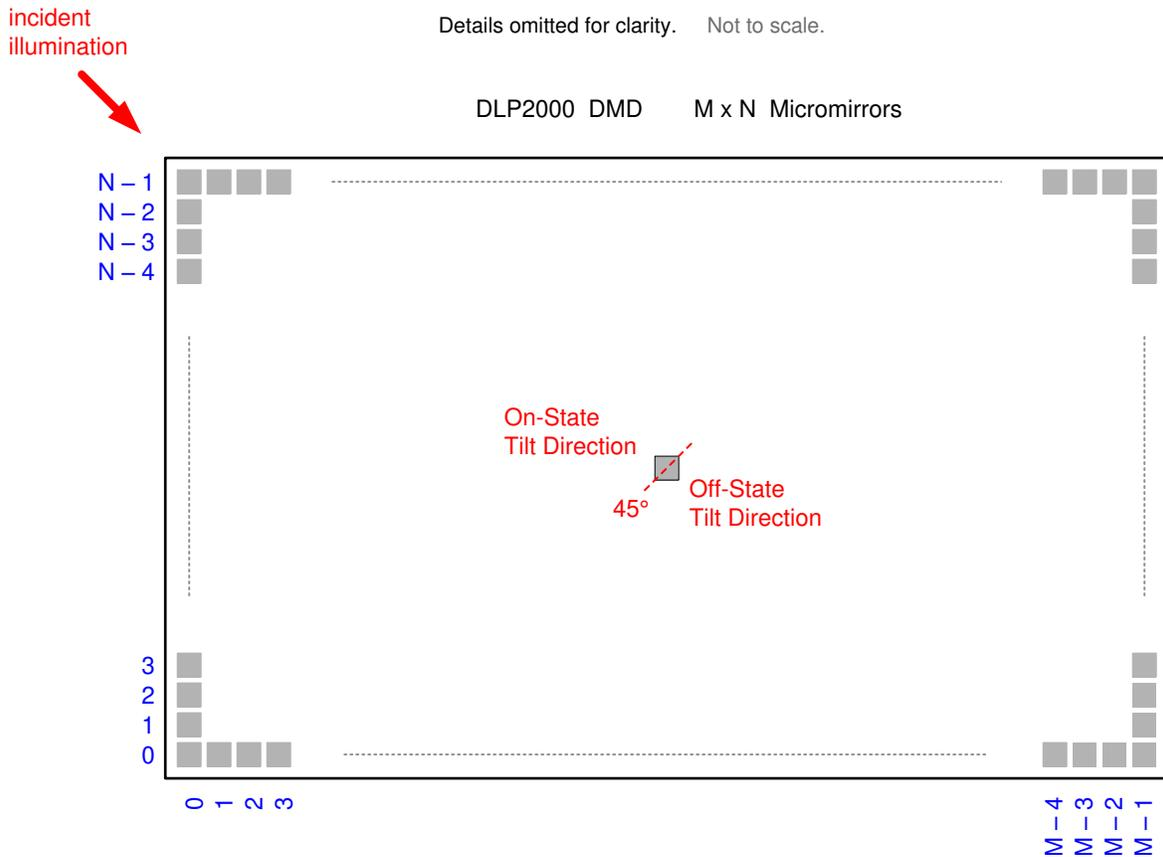

图 6-9. Landed Pixel Orientation and Tilt
- (1) Limits on variability of micromirror tilt half angle are critical in the design of the accompanying optical system. Variations in tilt angle within a device may result in apparent non-uniformities, such as line pairing and image mottling, across the projected image. Variations in the average tilt angle between devices may result in colorimetry and system contrast variations. The specified limits represent the tolerances of the tilt angles within a device.
- (2) See Fig 6-9.
- (3) Conditions of acceptance: All DMD image quality returns are evaluated using the following projected image test conditions: